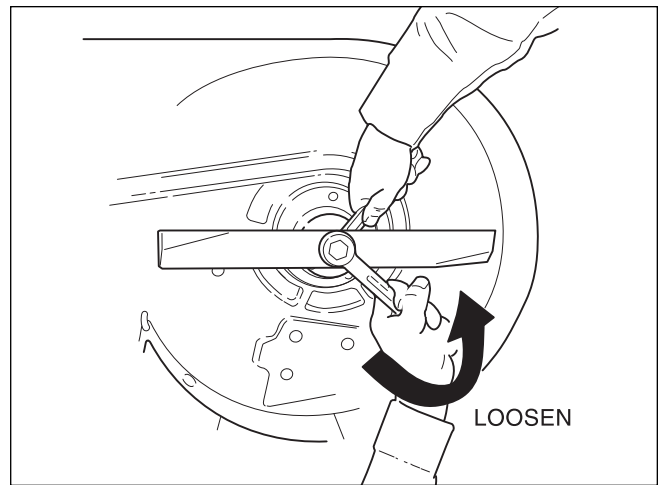

Figure 25. Removing the Blade
2. To remove blade for sharpening, use a 1" wrench on the flats of the spindle shaft while removing the blade mounting bolt with a 15/16" wrench (Figure 25).